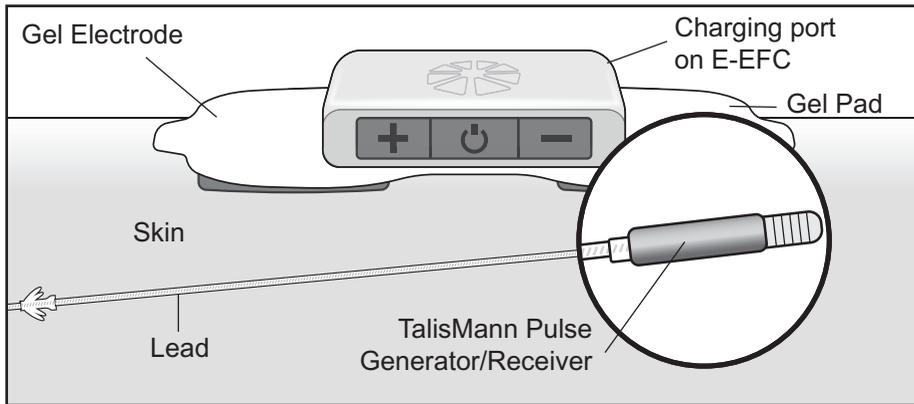

Figure 6-5: Correct stimulation position. (Illustration not to scale.)
4. Align the Gel Electrode directly over the end of the lead attached to the TalisMann Pulse Generator and Receiver. The center of the gel pad should be above the TalisMann Pulse Generator and Receiver. See Figure 6-5.